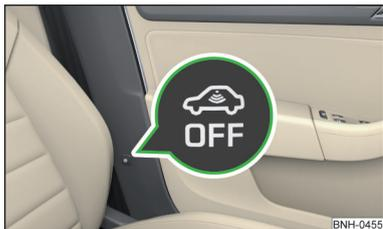

Fig. 35
- Press the symbol button  » Fig. 35 on the B column of the driver's side.